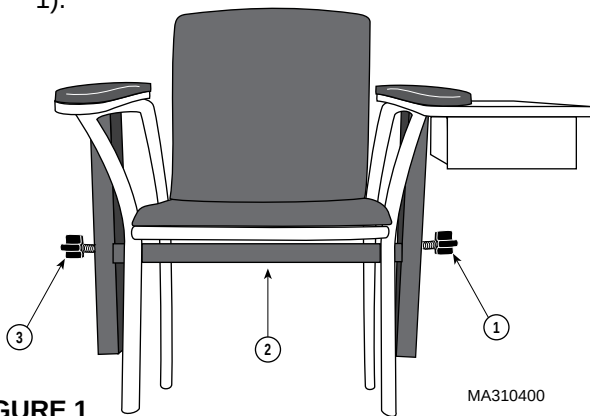

FIGURE 1
2. For packaging reasons, the drawer section of the chair is installed over the seat section of the chair. Loosen knob "1" (Fig. 1) and remove the drawer section from the "H"-frame (2, Fig. 1). Rotate the drawer section 180°. Insert the drawer section back into the "H"-frame and tighten knob "1" (Fig. 1).
1. The **165-001 Blood Drawing Chair with Drawer** is shipped from the factory with the drawer assembly mounted on the left-hand side. To change the drawer assembly to a right-hand mounting, loosen knobs "1" and "3" (Fig. 1).